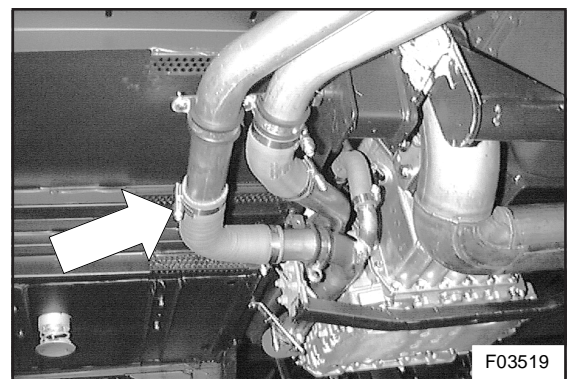

Figure 4: Transmission oil cooler feed line (B500-transmission)
7. Working beneath the radiator compartment, loosen the hose clamps of the transmission oil cooler feedline indicated in Figure 4. Detach the hose to drain the coolant.